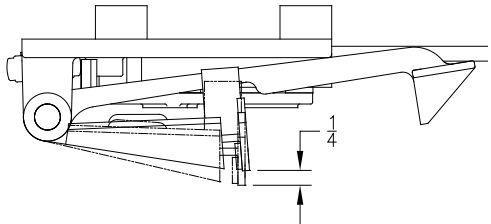

Fig. 9: Adjusting the **LOWER SCREW** (clutch retracting screw)
- Close the door to fully retract closing vane, and then tighten the clutch-retracting screw (the **LOWER SCREW** on the door opening vane) only until the opening vane has retracted 0.25 inch (1/4") or has moved as needed. See Fig. 9.